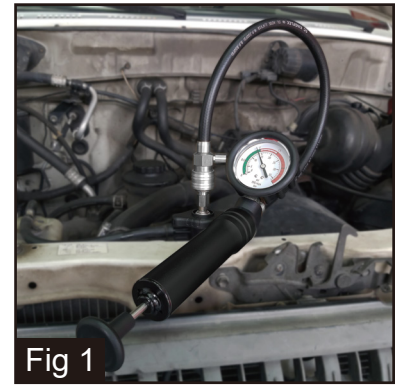

Fig 1
- 4 Pump pressure to 10-15 psi (Fig 1)